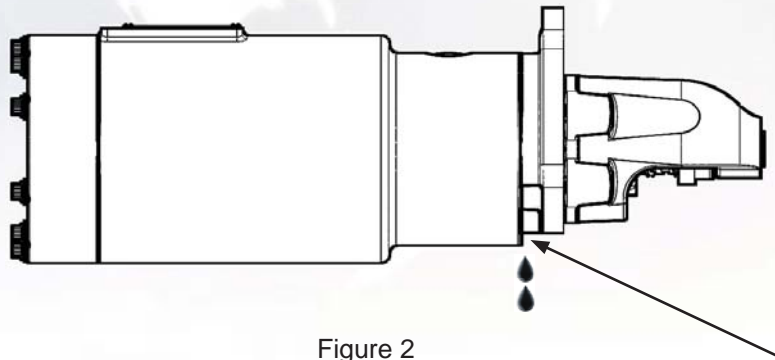

Figure 2
- If the starter motor appears to leak between the pinion housing and the motor housing (Fig 2) ensure the shaft seal assembly is still intact and functioning. In some applications where the flywheel housing is a wet clutch application, it may be necessary to install a gasket between the flywheel housing mounting face and the mating face of the pinion housing. Consult factory for gasket information (Reference ES-515).